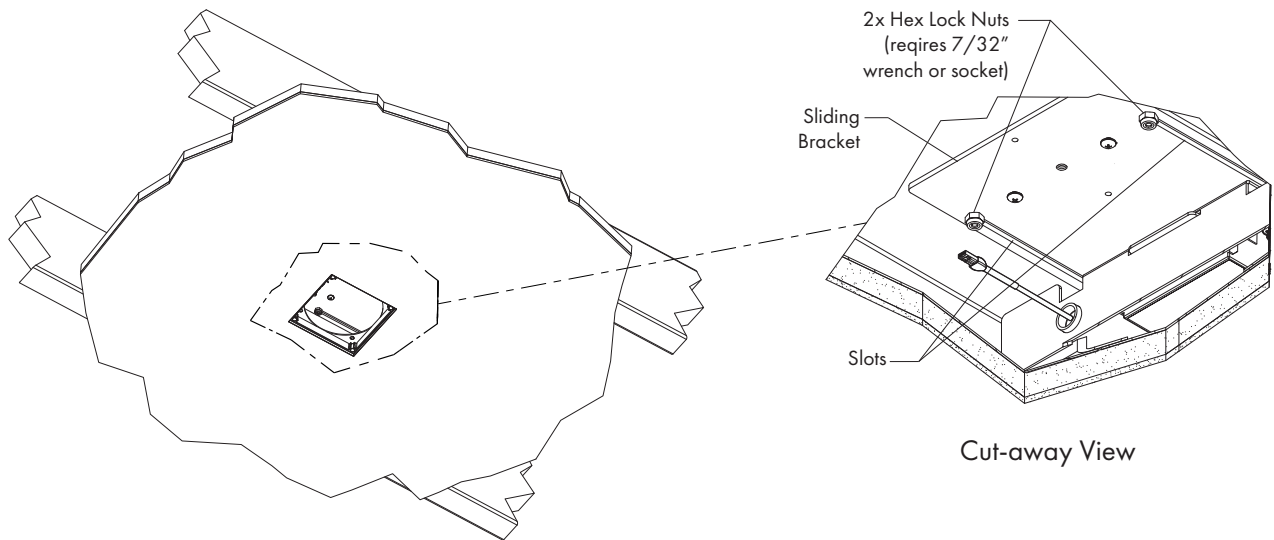

FIG 15.1 Sliding Bracket Adjustment
STEP 2 Locate and loosen (DO NOT REMOVE) 2x Hex Lock Nuts as shown in **FIG 15.1.**
STEP 6 Move Sliding Bracket fully back to properly center Lamp Module (Position 1) and secure Lock Nuts - **FIG 15.1 and 15.2.**